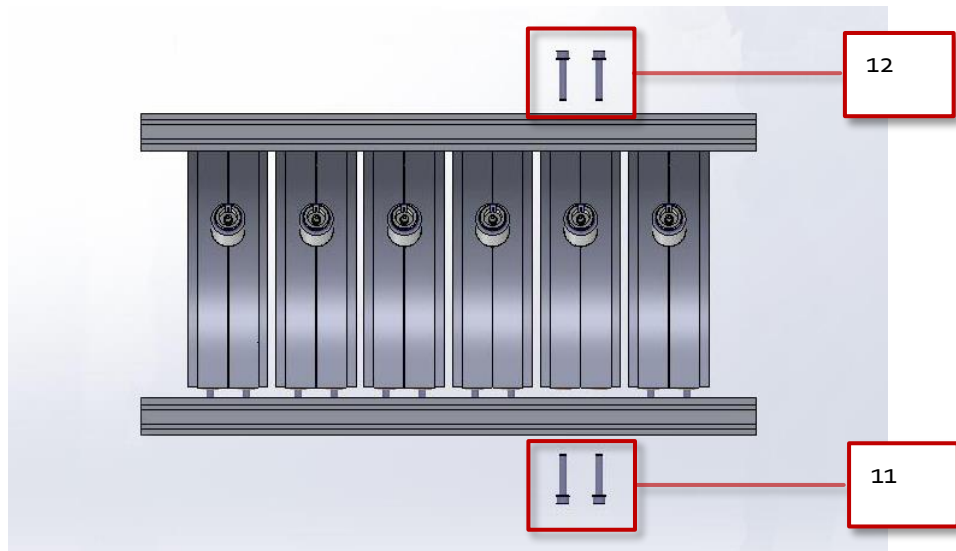

Figure 77 Remove screws on the connection bars
- Remove the four screws (M6) on the bottom connection bar holding the broken reactor, see Figure 77.
- Remove the four screws (M6) on the top connecting bar holding the broken reactor, see Figure 77.